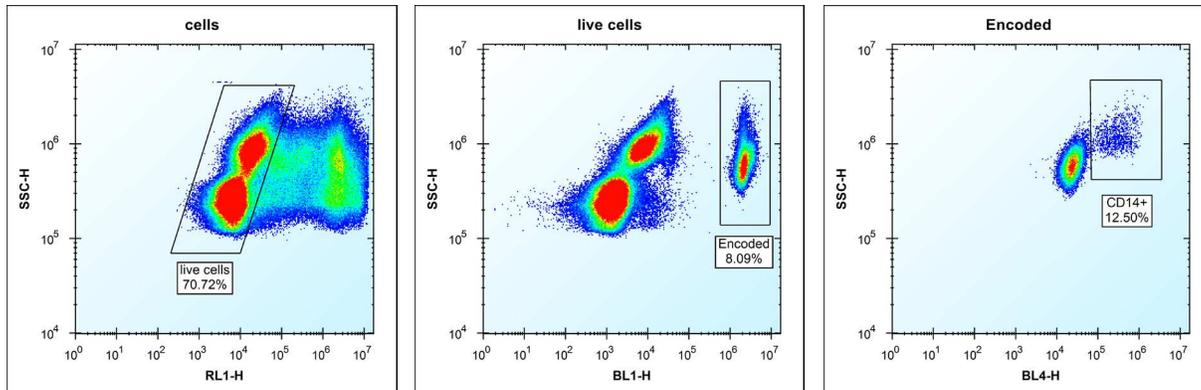

Figure 4: iQue[®] Human ADCP Kit gating for B/Green encoded Ramos cells with PBMCs.
- 6.7 Use template to gate Cells \rightarrow Live Cells \rightarrow Encoded \rightarrow CD14+ (see Figure 4).